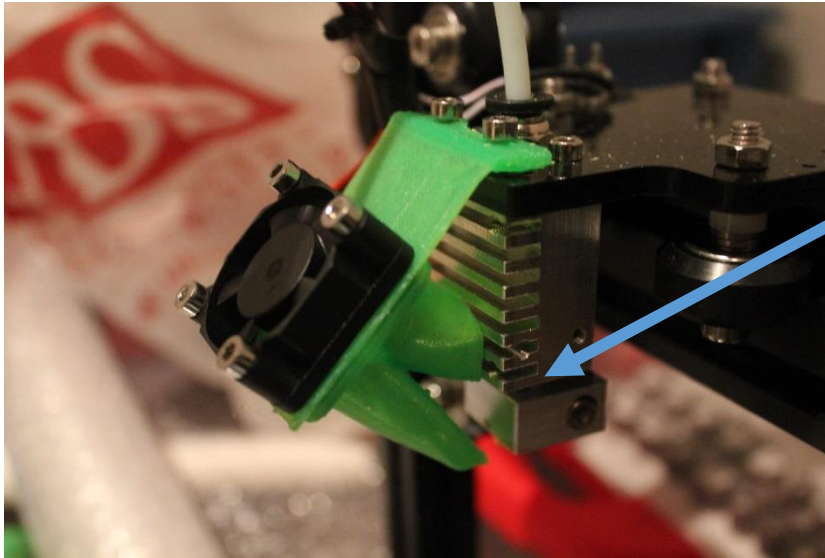

Figure 1
1. Filament tube: once you have assembled the extruder you will need to insert the white filament guide tube (this should be done near the end of the printer assembly). To avoid clogging it is best to have the tube inserted all the way into the extruder so that no gaps are left. A good way to do this would be to remove the nut above the extruder and screw the nut back in once the filament tip is touching the base. Remove the nozzle from the heat sink to ensure the white filament guide is inserted all the way (Figure 1) (More information on the fan holder can be found at the end of the document)